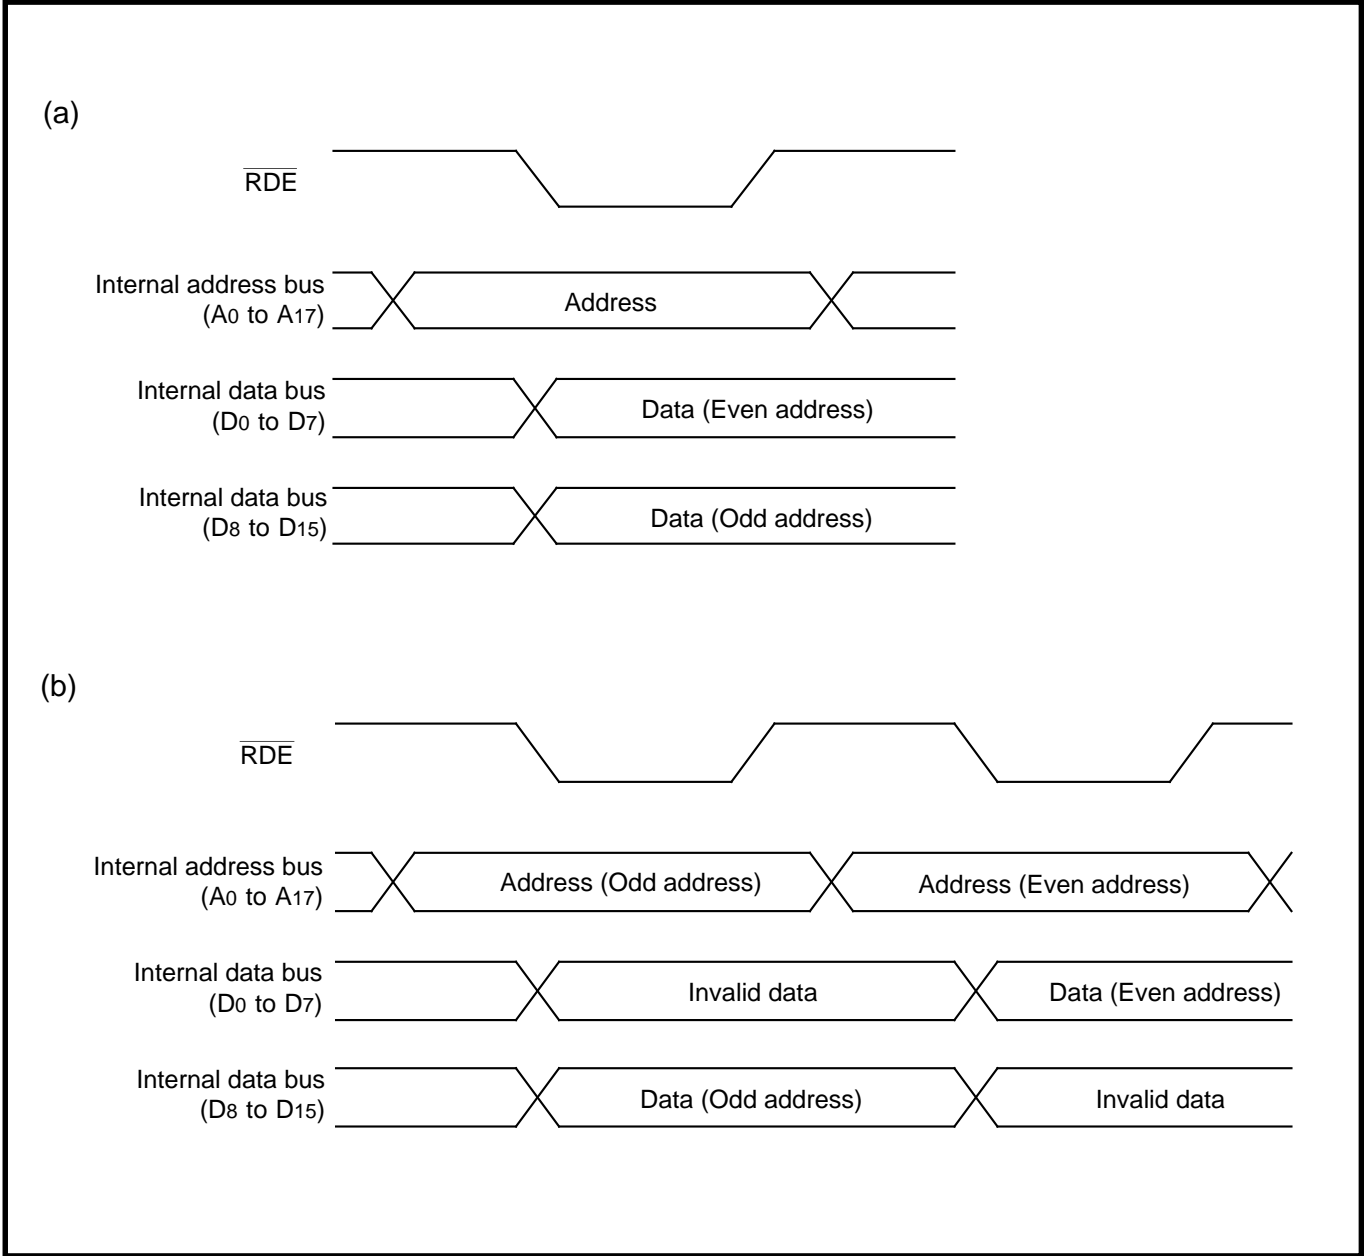

Fig. 2.2.3 Basic operating waveforms of bus interface unit (BIU)
- Signal names in Figure 2.2.3